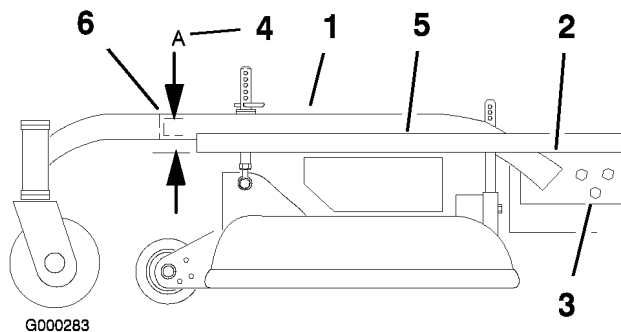

Figure 59
- Place a long straight edge on top of the engine deck as shown in Figure 59.
- At the carrier frame cross tube, measure the height at location **A** (Figure 59). This measurement must be 1-5/16 inch (33 mm), plus or minus a 1/4 inch (6 mm).
- Loosen the carrier frame mounting bolts on both sides of the machine (Figure 59).
- Align the carrier frame and engine deck to match 1-5/16 inch (33 mm), plus or minus a 1/4 inch (6 mm) at location **A** (Figure 59).